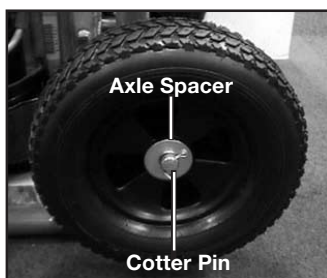

Figure 8
10. Place the flat washer (7) against the wheel bushing and slide the cotter pin (4) through the drilled hole of the axle (2). Bend the cotter pin (4) to secure in place. See Figure 8.